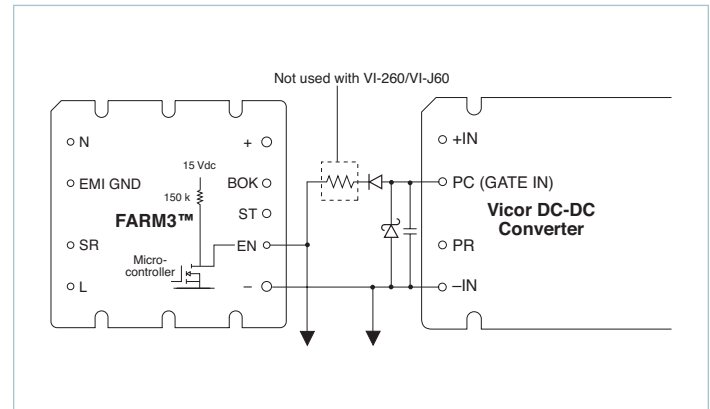

Figure 9.11 — Enable (EN) function
Enable (EN) Pin: The Enable pin must be connected to the PC pin of all converter modules to disable the converters during power up. Otherwise, the converters would attempt to start while the hold-up capacitors are being charged through the current limiting thermistor, preventing the bus voltage from reaching the thermistor bypass threshold, thus disabling the power supply. The Enable output (the drain of an N-channel MOSFET) is internally pulled up to 15V through a 150kΩ resistor. (Figure 9.11)